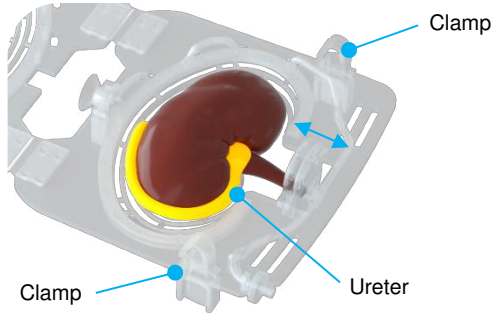

Figure 17: Placing ureter and adjust patch holder position.
see figure 17. Make sure the artery is not kinked or twisted which would result into a bad perfusion.
- Guide the ureter around the kidney within the kidney holder (figure 17) and make sure it is not kinked or twisted.
- Close the kidney holder by moving both sides towards each other. Make sure the ureter is not wedged in between and the holder is locked by the clamps (figure 17).